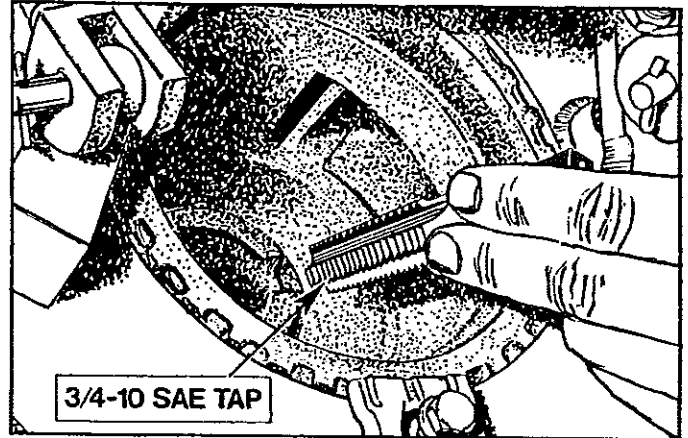

Figure 8. Clean Hole with Tap.
- e. Clean out hole in center of motor shaft with a  $\frac{3}{4}$ -10 SAE tap and blow out metal shavings with compressed air. (FIG. 8). **CAUTION: To avoid serious equipment damage the internal threads must be clean and free of all dirt and abrasive.**